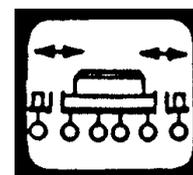

Fig.16
4.6 Touche "Remonter/Escamoter"(Fig.16)